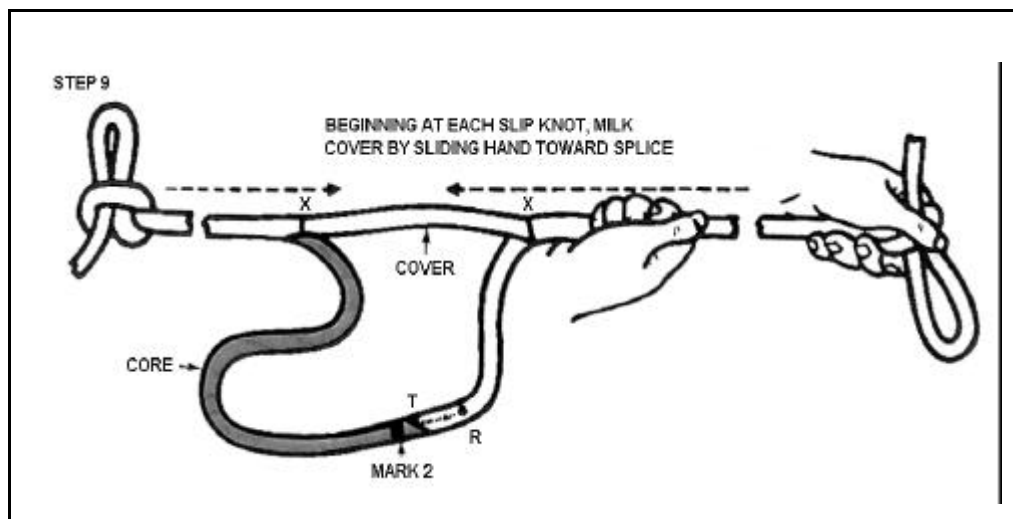

Figure 12-74. Burying the Exposed Core
- STEP 9 -- Burying the exposed core.** Hold line at slip knot and with other hand milk cover toward the splice, gently at first and then more firmly (see Figure 12-74). The cover will slide over Mark 3, Mark 2, the crossover, and point R. Repeat with the other side of the splice. Continue burying until all cover slack between the knot and the splice has been removed.